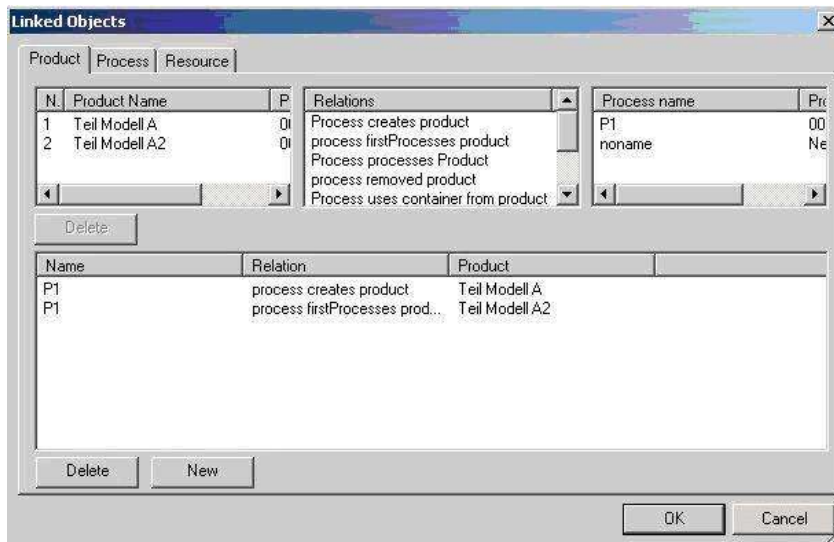

Figure 149: Linked Objects Dialog - Product Display
- In the Linked Objects dialog (*Please refer to the Figure 149*) relations can be generated between linked products and processes generated exclusively for this resource (resource-dependent processes).
- 2) Click Linked Objects. The Linked Objects dialog opens. *Please refer to the Figure 149.*
- 1) To create a relation between a product and a resource-related process, select the product followed by the relation and the process in the upper window. *Please refer to the Figure 149.*
- 2) After selecting, click **New** button. The selected relation is displayed in the bottom window. In the screenshot below, the **noname** process has been assigned to two relations: input process and output process. *Please refer to the Figure 149.*